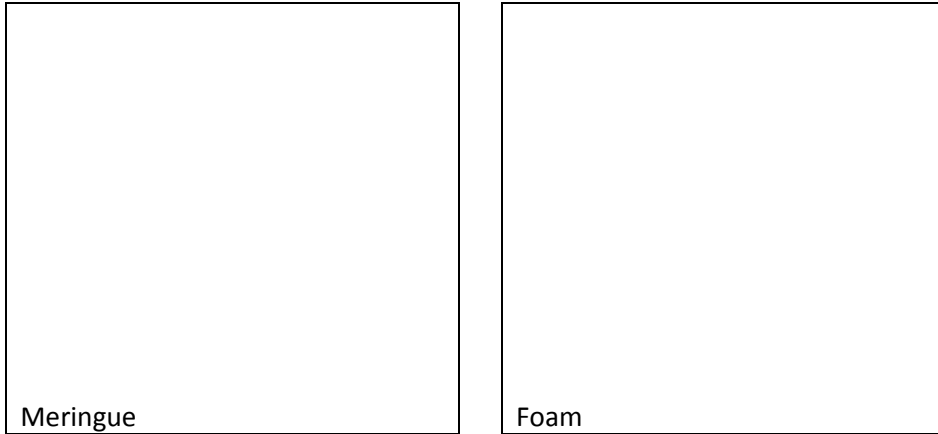

Figure 1: Microscope drawings
10. Place a piece of the cooked meringue (recipe 2) under the microscope and draw what you see in figure 1.
12. Look at the foam under the microscope and draw what you see in figure 1.
8. What is the continuous phase and what is the dispersed phase of both structures (indicate in figure 1)?
9. What is the difference between the two foams in figure 1?